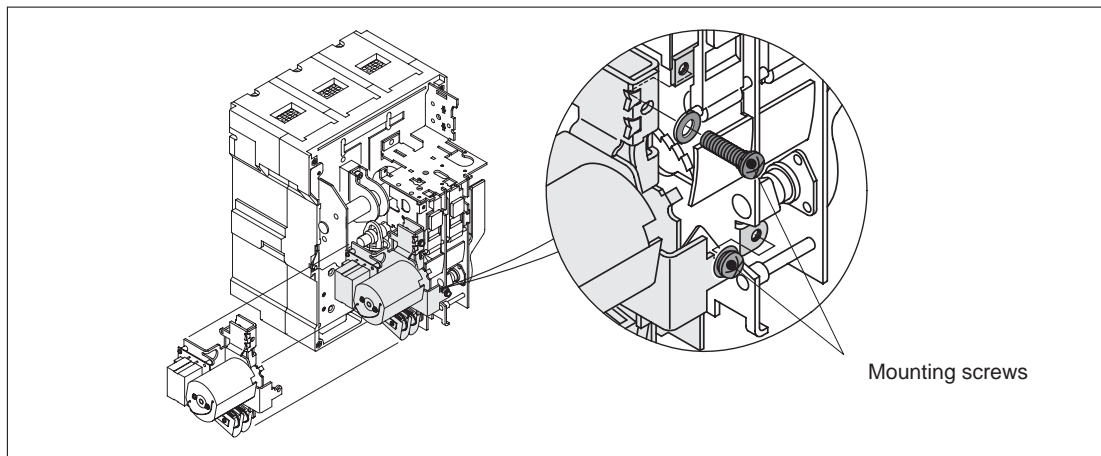

Fig. 4-17: Removal of the motor charging device
- ① If the counter (CNT) or the OFF lock device (CAL; CYL) are provided, remove them (two M6 screws) before dismantling the motor charging device. Remove the two M6 mounting screws of the motor charging unit (fig. 4-17).
- ② Draw out the motor charging unit sideways from the shaft.